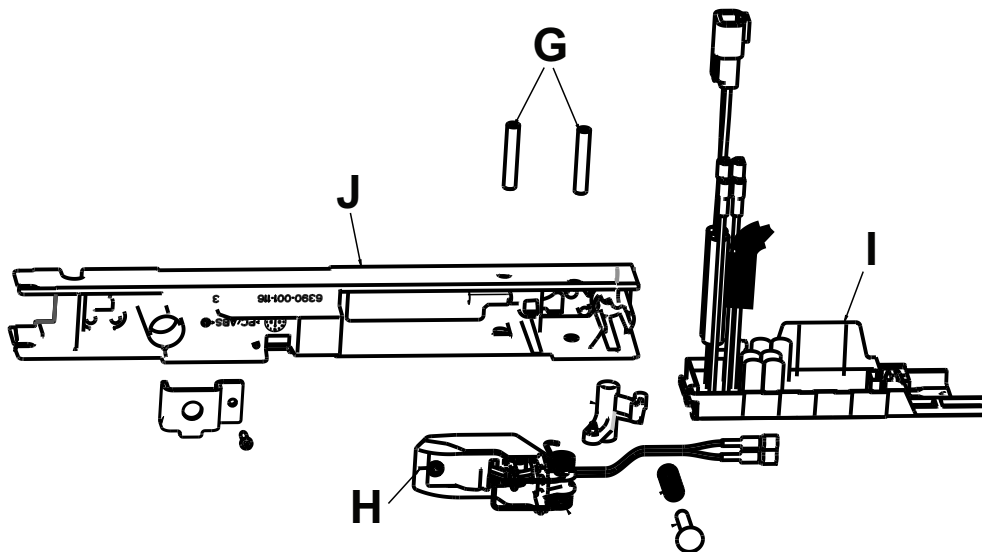

Figure 49 – Unplug coil wires from the inductive primary board
12. Remove the anchor pivot pin (G) that holds the anchor coil assembly (H) to the anchor housing (J) (Figure 49).
13. Unplug the coil wires from the inductive primary board (I) (Figure 49). Discard the anchor coil assembly.